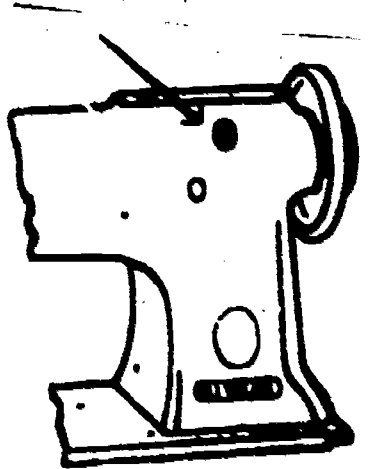

Figure 29. Upright Arm.
2. Keep plunger depressed and note the number in the hole in the upright arm as in figure 29. This number indicates the number of stitches per inch that the machine is set to sew.